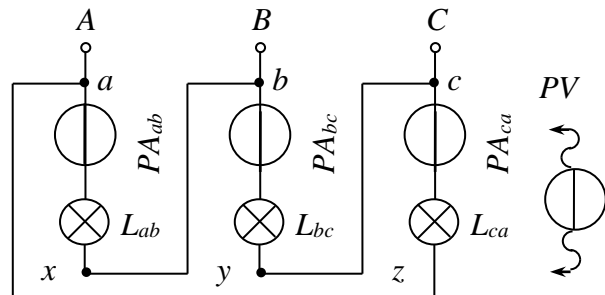

Fig. 7.3
1. Collect the circuit (fig.7.3) and connect it to the clamps A, B, C of the three-phase voltage power source $< 3 \sim 220V >$
2. Investigate the circuit (fig.7.3) with balanced loading ($SB1$ and $SB2$ closed, switch « $L \leftrightarrow J$ » in position J). Fill in the table 7.2 with results. Draw the vector diagram of currents and voltages using the data from table 7.2.
3. Investigate the circuit (fig.7.3) with non-balanced loading ($SB1$ and $SB2$ opened, switch « $L \leftrightarrow J$ » in position J). Fill in the table 17.3 with results. Draw the vector diagram of currents and voltages using the data from table 17.3.
4. Investigate the circuit (fig.7.3) with balanced loading ($SB1$ and $SB2$ closed, switch « $L \leftrightarrow J$ » in position J) when the phase ab is cut (no wire between x and b). Write down the results to the table 7.4, line 1. Investigate the circuit (fig.7.5) with a non-balanced loading ($SB1$ and $SB2$ open, switch « $L \leftrightarrow J$ » in position J) when the phase ab is cut (no wire between x and b). Fill in the line 2 of table 7.4 with results. Draw the vector diagrams of currents and voltages using the data from table 7.4.
The name and purpose of work. Homework – the calculation of the circuit. The schematic diagram of the investigated circuit (fig 7.3). The tables 7.2, 7.3, 7.4. The vector diagrams. The conclusions.